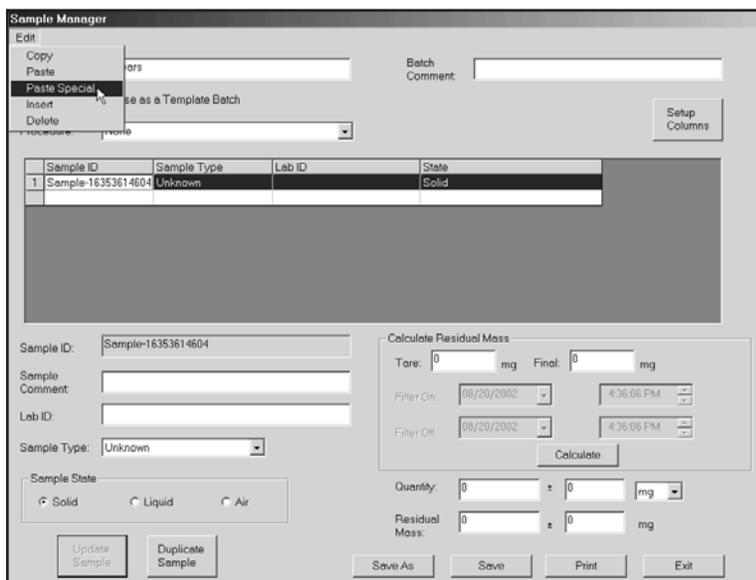

Figure 108 Adding a Sample
- From the **Edit** menu, choose **Paste Special** (Figure 108). In the dialog box enter 19 as the number of samples to create. Click **OK**. The Sample Manager table is now updated with 20 samples. To remove a sample, highlight the sample and from the **Edit** menu choose **Delete**.